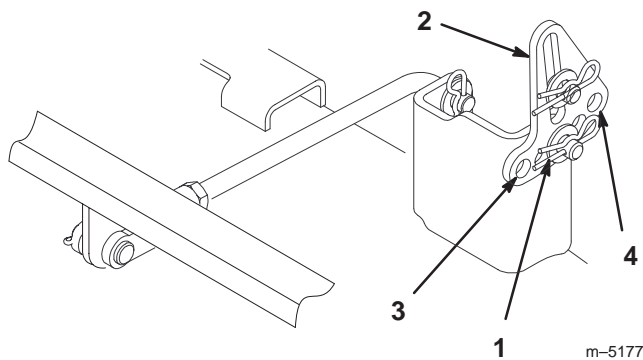

Figure 39
5. Remove the hairpin cotter and washer from the leveling bracket (Fig. 39). To level the blade(s), reposition the leveling bracket(s) in a different hole and install the washer and hairpin cotter (Fig. 39). A front hole lowers the blade height and a rear hole raises its height. Adjust both sides as required.